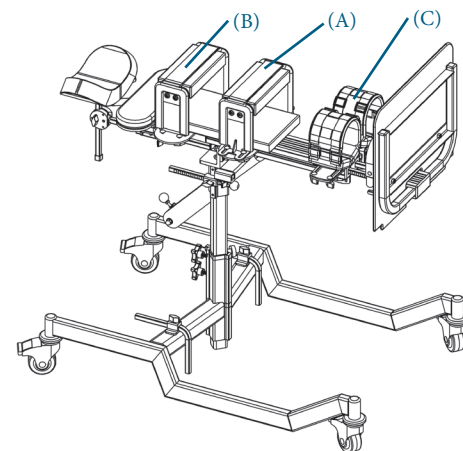

Fig. 11.2.2 - VERTIFLEX Standard Supine shown
11.2.2 VERTIFLEX – SUPINE POSITION (Fig. 11.2.2)